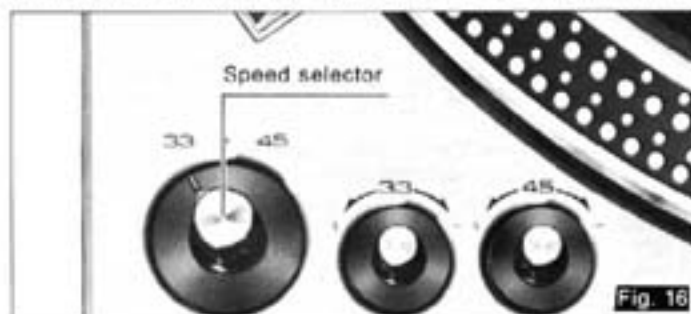

Fig. 16
- 1 Set the speed selector to the desired record speed. (See Fig. 16).